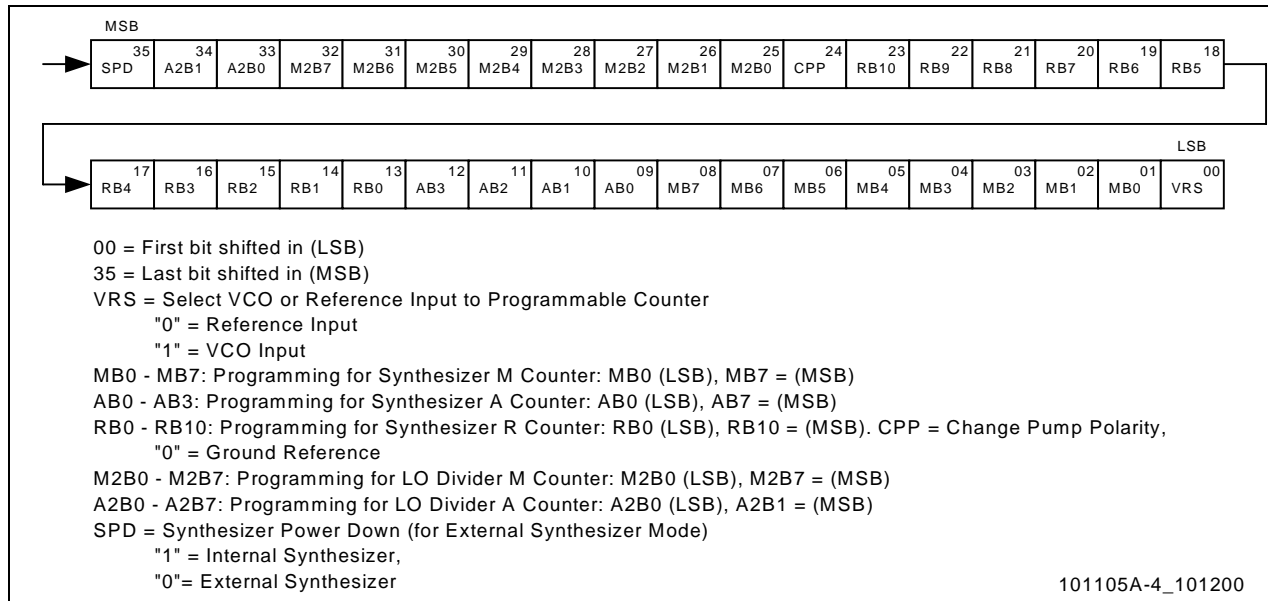

Figure 4. 3-Wire Programming Data Pattern
**3-Wire Bus Programming.** The 3-wire bus programming data is included in Table 2. The 3-wire programming data pattern diagram is shown in Figure 4.